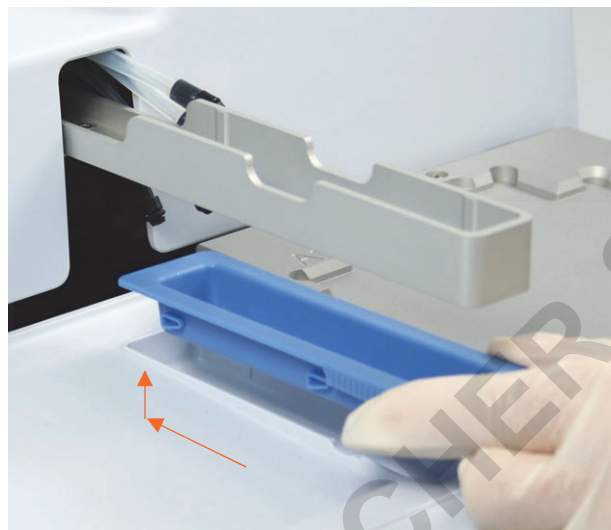

Figure 11–42. Removing the priming vessel
2. Lift the priming vessel up and remove it (Figure 11–42).